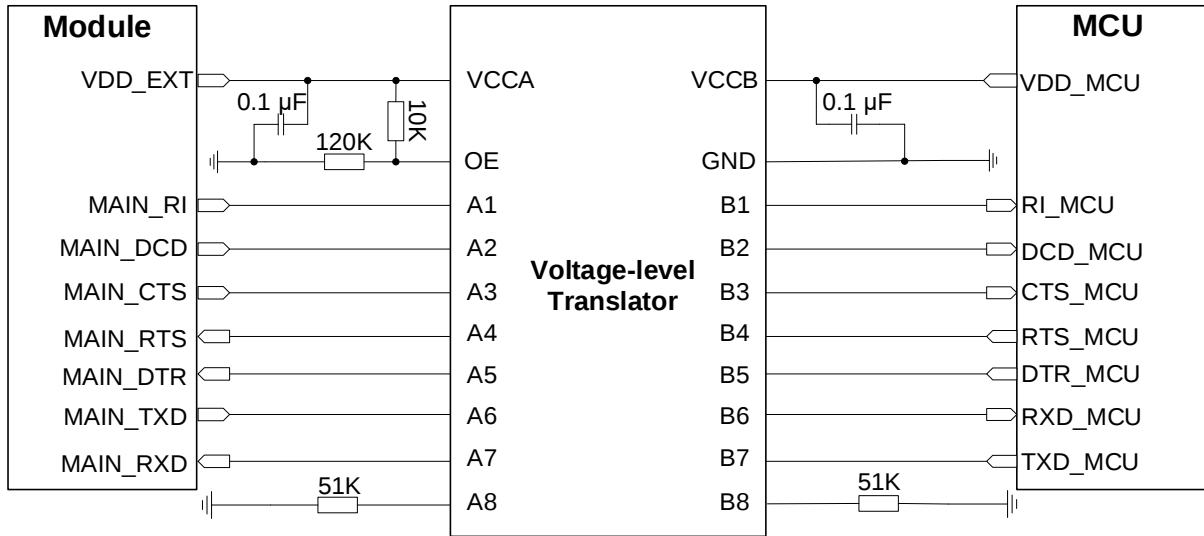
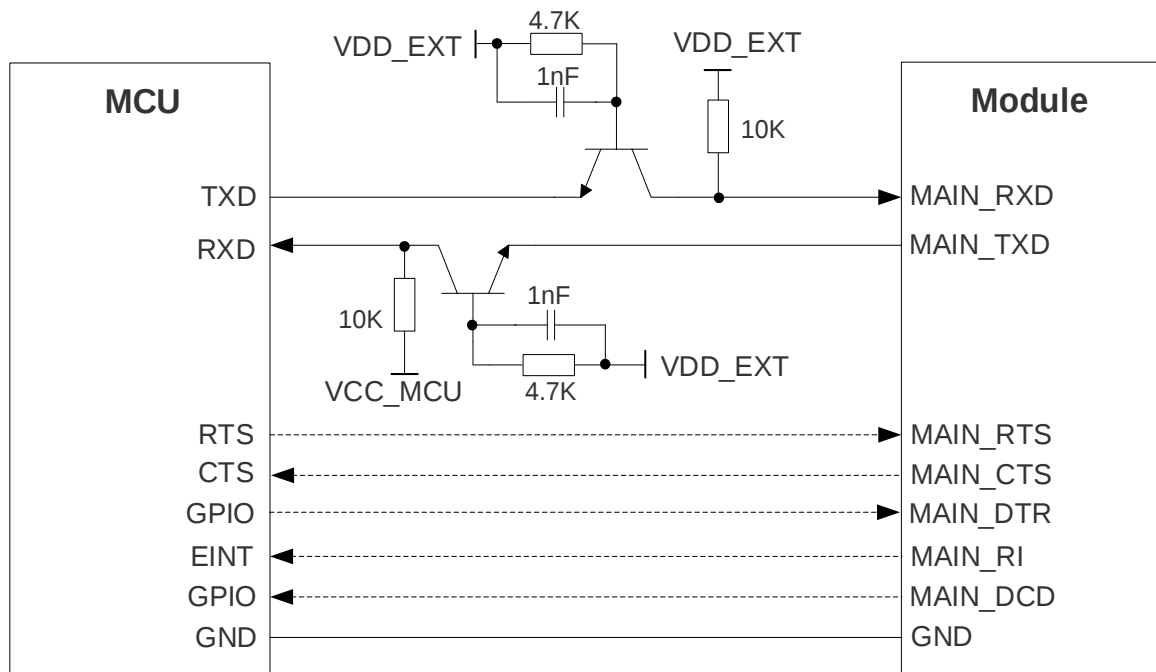

Figure 17: Main UART Reference Design (IC Solution)
Figure 18: Main UART Reference Design (Transistor Solution)
4. The level-shifting circuits (**Figure 17** and **Figure 18**) use the main UART as an example. The circuits of the debug UART are connected in the same way as the main UART.